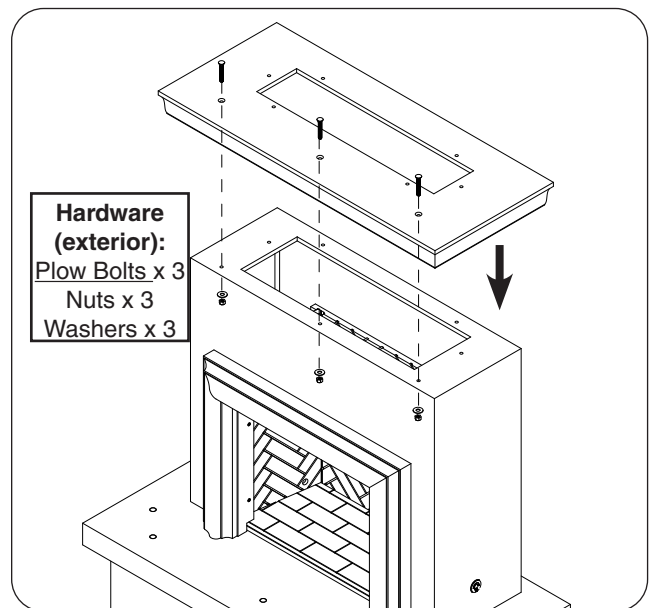

Fig. 23-2 Assemble mantel
1. Place the mantel on top of the body piece (see Fig. 23-2).
2. Carefully align the pilot holes, and insert the hardware (exterior hardware kits) in the order shown in Fig. 23-2. Hand tighten, then use a 3/4" open end wrench (or equivalent) to fasten.